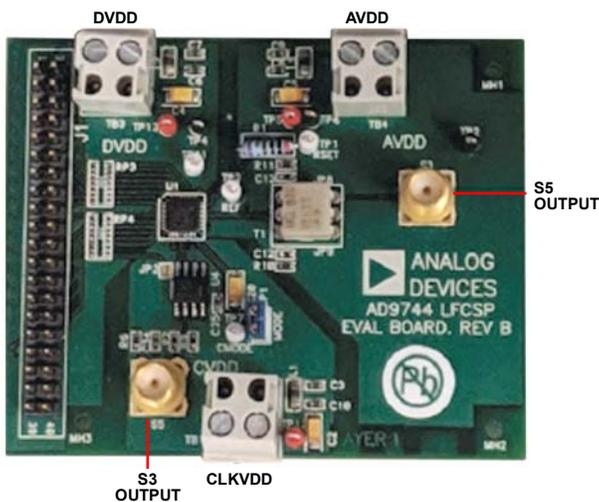

Figure 22. Evaluation Board Connectors
8. Connect one 3.3 V supply to the DVDD, AVDD, and CLKVDD connectors on the AD9740ACP-PCBZ/AD9742ACP-PCBZ/AD9744ACP-PCBZ/AD9748ACP-PCBZ evaluation board (see Figure 22).
11. Connect a second coaxial cable between the clock input (S5) on the AD9740ACP-PCBZ/AD9742ACP-PCBZ/AD9744ACP-PCBZ/AD9748ACP-PCBZ evaluation board and the other side of the SMA tee adapter (see Figure 22).